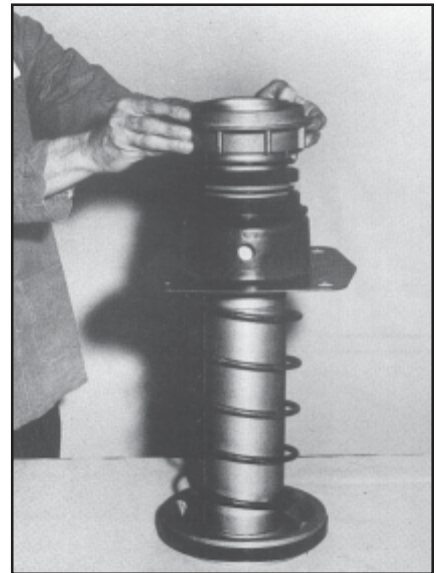

Figure 37
- (b) Place release spring, gasket, spring seat stop, (omit spring seat stop on six bolt design) spring seat and new hollow rod packing seal which has been saturated with new journal box oil or triple valve oil. O-rings and hollow rod guide on hollow rod, (See Fig. 37) then place piston hollow rod assembly in holding fixture used during disassembling and partially compress release spring.